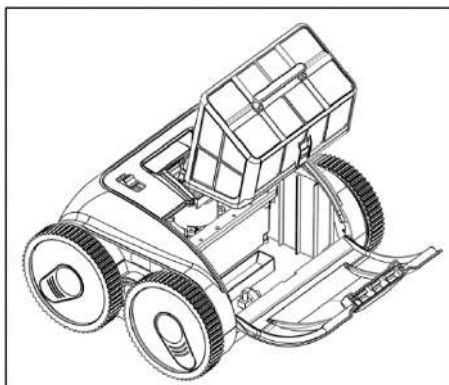

Figure 4-3
4.3.2 Take out the filter basket (Figure 4-3)